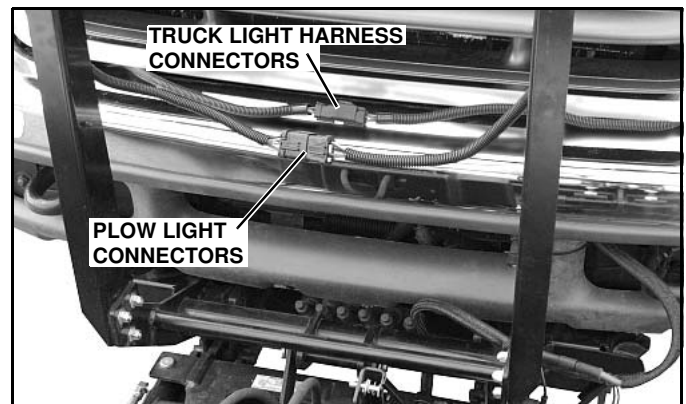

Figure 1-18
7. Unplug light harness connectors on truck, and disconnect plow light connectors, which had been plugged together for corrosion protection during storage (See Figure 1-18).